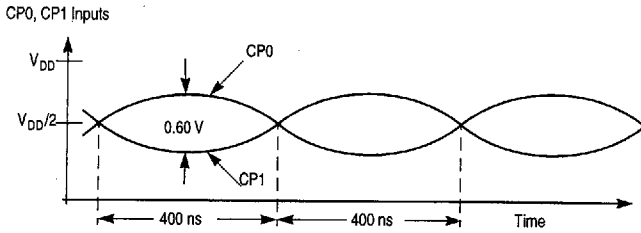

Figure 6-9. Communications Port Signal Input for Table 6.2.8
- CP0 and CP1 inputs each 0.60 V_{p-p}, 1.25 MHz sine wave 180° out of phase with each other as shown in Figure 6-9.